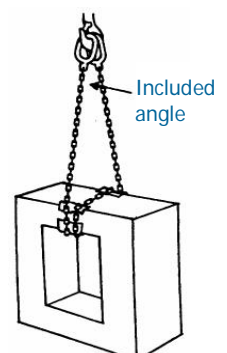

Fig. 18
- The SWL will be that for a two-leg sling reduced by the included angle. (see Fig. 18)